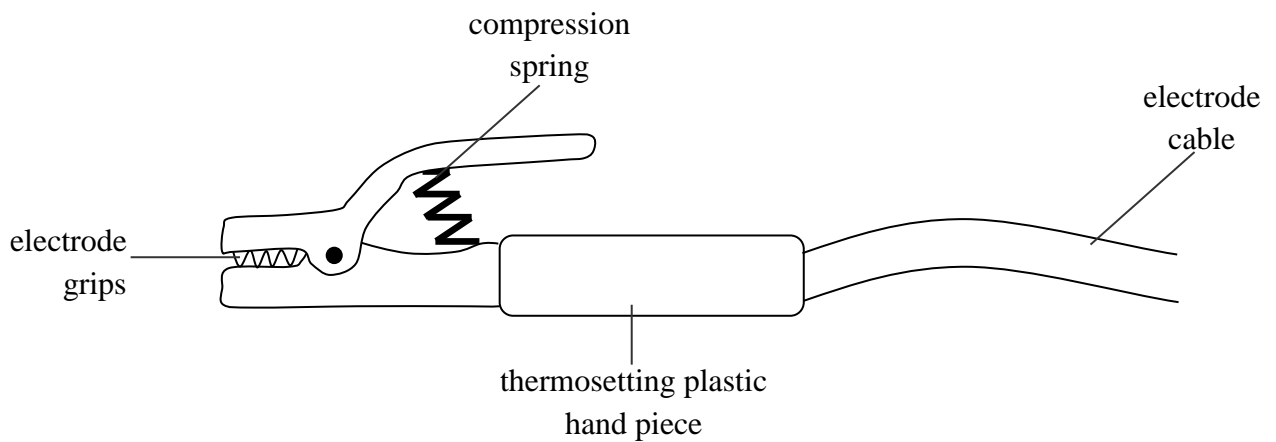

Figure 2: Detailed electrode holder
d) Study carefully **Figure 2**
i) On **Figure 2**, circle the part which needs to be made from metal with **NO** insulating cover.